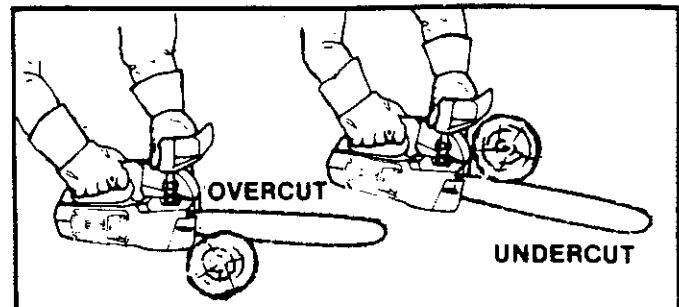

Figure 24
2. TYPES OF CUTTING USED Figure 24